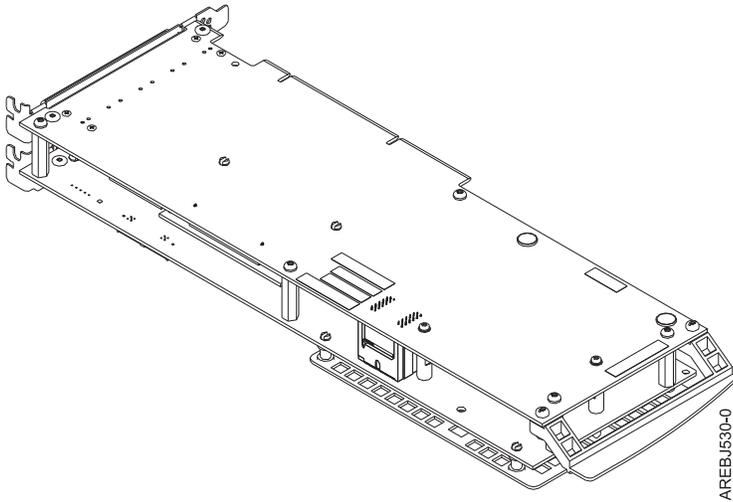

Figure 29. 572F/575C card set adapter
2. Place the 572F/575C card set adapter on an ESD protective surface and orient it as shown in Figure 29 on page 74.